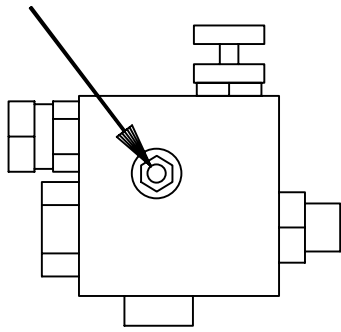

Fig. 60
- c. Loosen locknut for the relief valve screw (fig. 60), and unscrew *onreturn*.
- e. Adjust relief valve screw (fig. 60) until pressure gauge shows 110 bar.